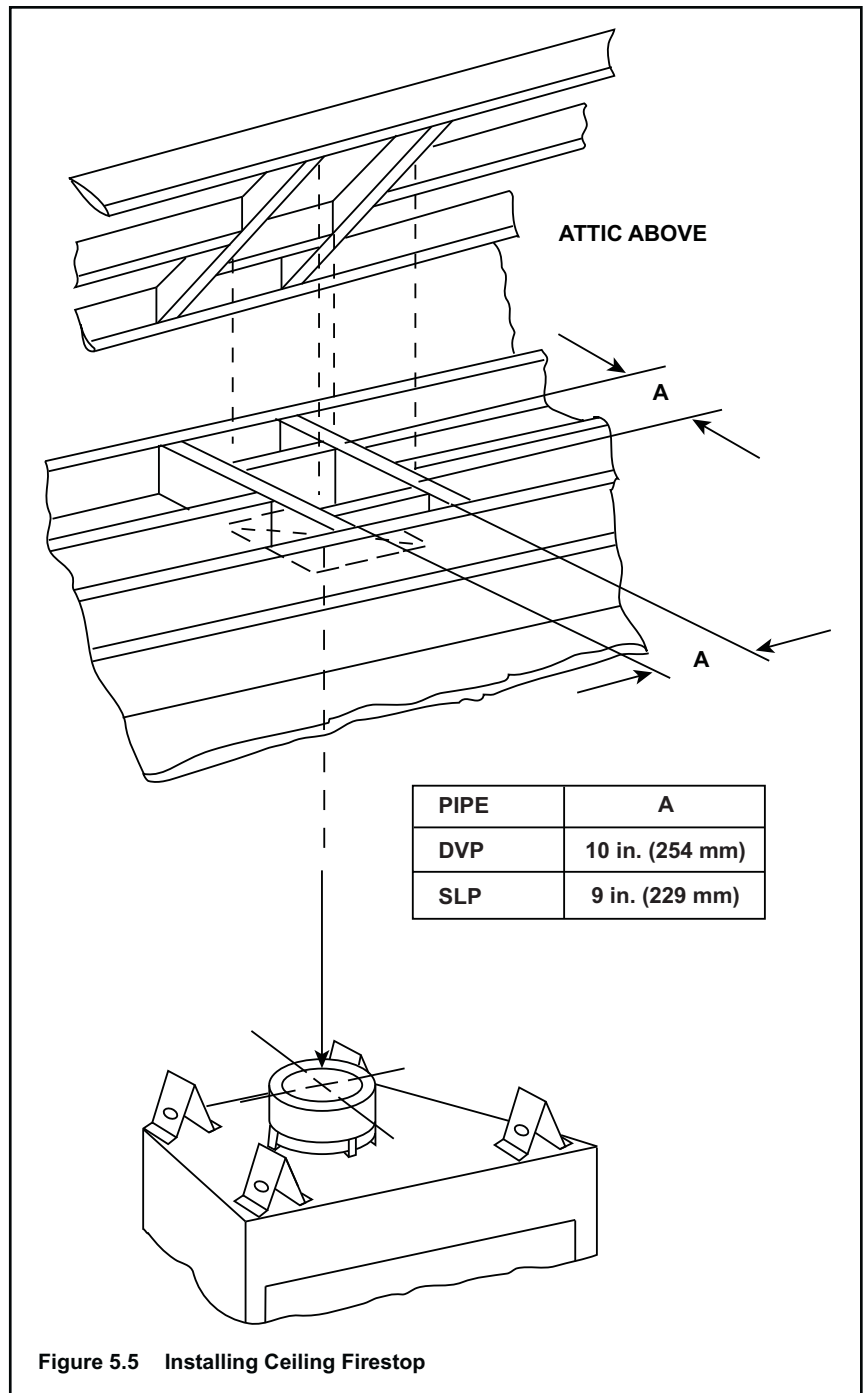

Figure 5.5 Installing Ceiling Firestop
- **DVP pipe only** - Frame an opening 10 in. by 10 in. (254 mm by 254 mm) whenever the vent penetrates a ceiling/floor (see Figure 5.5).
- **SLP pipe only** - Frame opening 9 in. x 9 in. (229 mm x 229 mm) whenever the vent penetrates a ceiling/floor (see Figure 5.5).